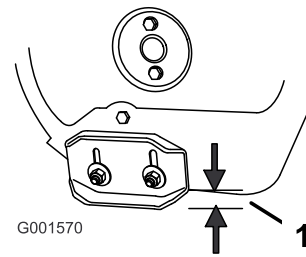

Figure 36
2. Loosen the nuts that secure both skids to the auger sides until the skids slide up and down easily (Figure 36).